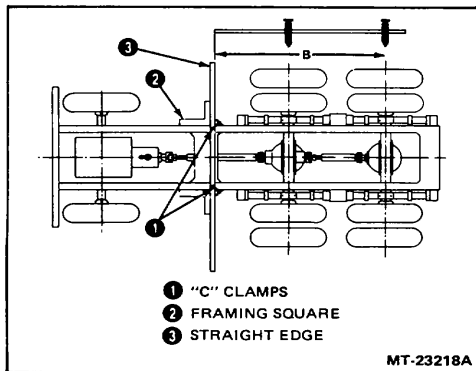

Figure 4 - Measure Dimension "B"
9. Measure distance between cord of plumb bob and pointer on rear rear axle and record (dimension "B" in Figure 4).